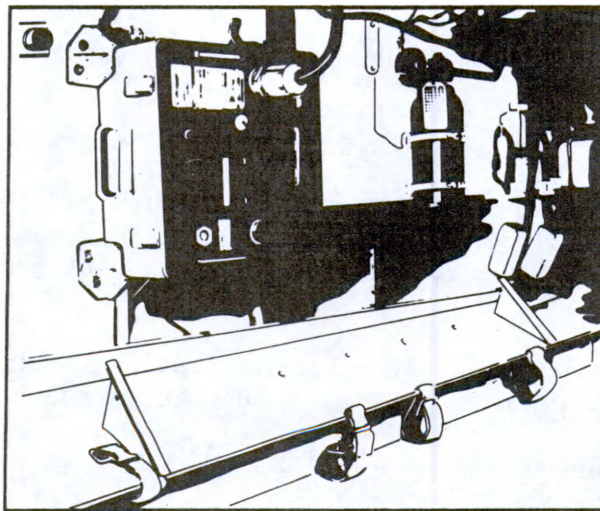

Figure 3
e. Missile Guidance Set (fig. 3).
(1) Remove the cover.
(2) Place the missile guidance set (battery to the right) in the bracket located on left wall of the vehicle. Secure with the four straps.